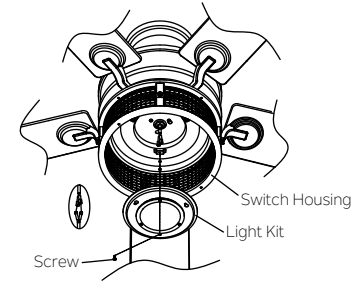

Fig. 20
Step 1. Remove 1 of the 3 screws from the switch housing and loosen the other 2 screws (do not remove). (Fig. 20)
Step 2. Hold the light kit close to the switch housing and connect the WHITE wires from the light kit and fan by pushing the connectors together. Follow the same procedure with the BLACK wires. (Fig. 20)
Step 3. Tuck the connections neatly into the light kit. Align the slot holes on the light kit and switch housing. Rotate the light kit until it locks in place at the narrow end of the key holes. Secure by tightening the 2 screws previously loosened and the one previously removed. (Fig. 20)